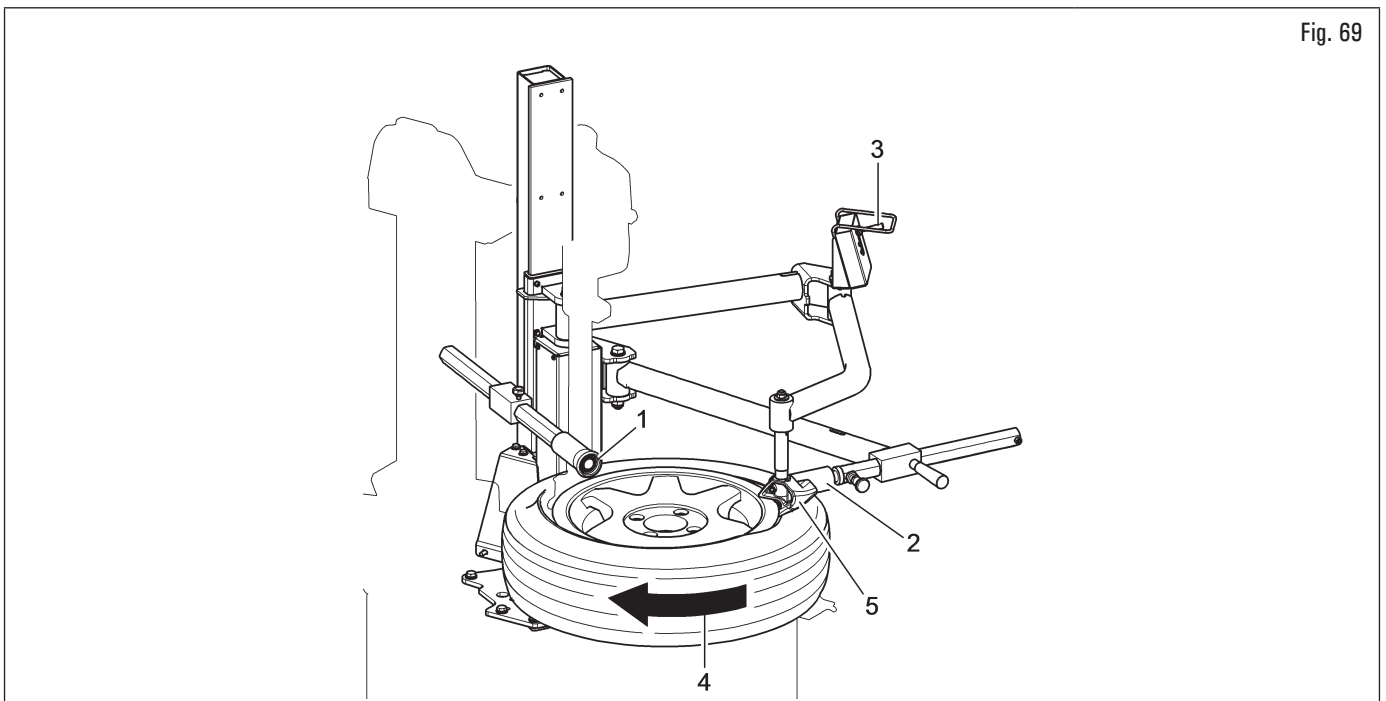

Fig. 69
4. position the pusher roller (Fig. 69 ref. 1) radially with respect to the rim and at the same time position the bead press roller (Fig. 69 ref. 2) (applies to models with additional lateral arm with cylindrical roller), as indicated in figure. Then place the wedge tool (Fig. 69 ref. 5) on the bead in order to keep it into the rim drop centre during the following phases;
5. lower the pusher roller (Fig. 69 ref. 1) and the bead press roller (Fig. 69 ref. 2), by lowering the relevant lever of the control unit (Fig. 69 ref. 3), until the tyre bead is placed next to the rim drop centre;
6. start the chuck clockwise rotation (Fig. 69 ref. 4) using the proper pedal control and complete bead mounting;
7. lift the device by lifting the relevant lever of the control unit (Fig. 69 ref. 3) and bring the rollers to rest position.